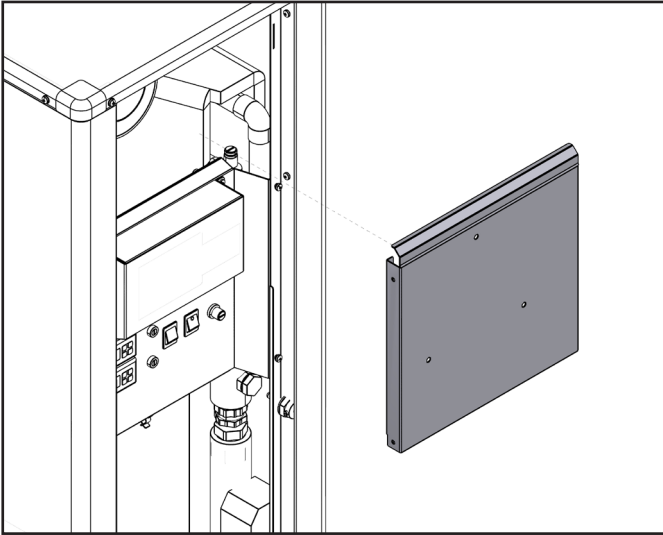

Figure 7-7: Removal of upper side casing panel
3. Remove the upper panel on the right hand side of the boiler casing. Unscrew and remove the two panel retaining screws (accessed from inside casing), lift the panel straight up to disengage the two tags from their slots and remove the panel from the boiler casing. Refer to Figure 7-7.